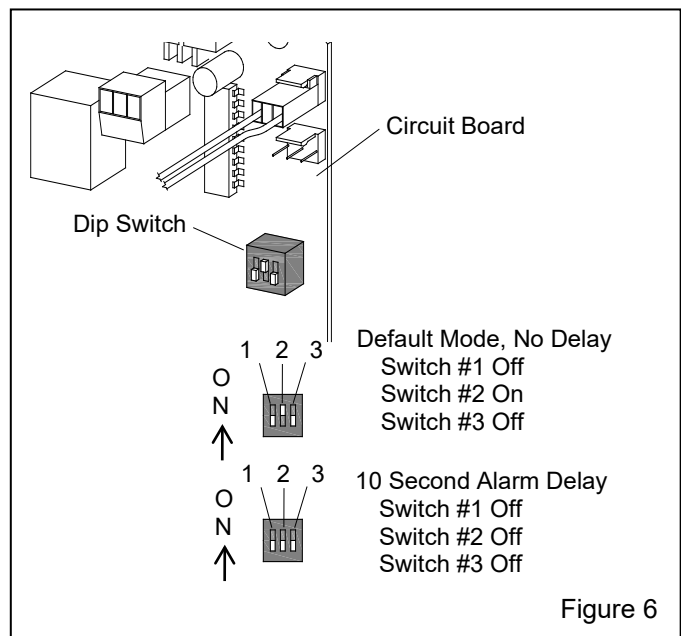

Figure 6
**2.7 Changing Mode Select Dip Switch to Delay Alarm – Figure 6**
**NOTE:** In areas where intermittent radio frequency transmissions cause false alarms, the monitor can be set to have a 10 second alarm delay to avoid false alarm conditions. The dip switch is mounted on the circuit board as shown in Figure 6.
**Do not change the switch positions unless there are frequent alarms from radio frequency (RF) transmissions. Do not change the switch positions to any position other than noted in Figure 6. Avoid unnecessary tampering with the circuit board; doing so can change the monitor’s settings, which can affect CO alarm conditions.**
**2.7.1** The default and recommended setting has no delay in alarm-response time. The positions of the white mode-select switches are shown on the upper example in Figure 6 and as follows:
**2.7.2** To delay the alarm by 10 seconds, set the white mode-select switches as shown on the lower example in Figure 6 and as follows: